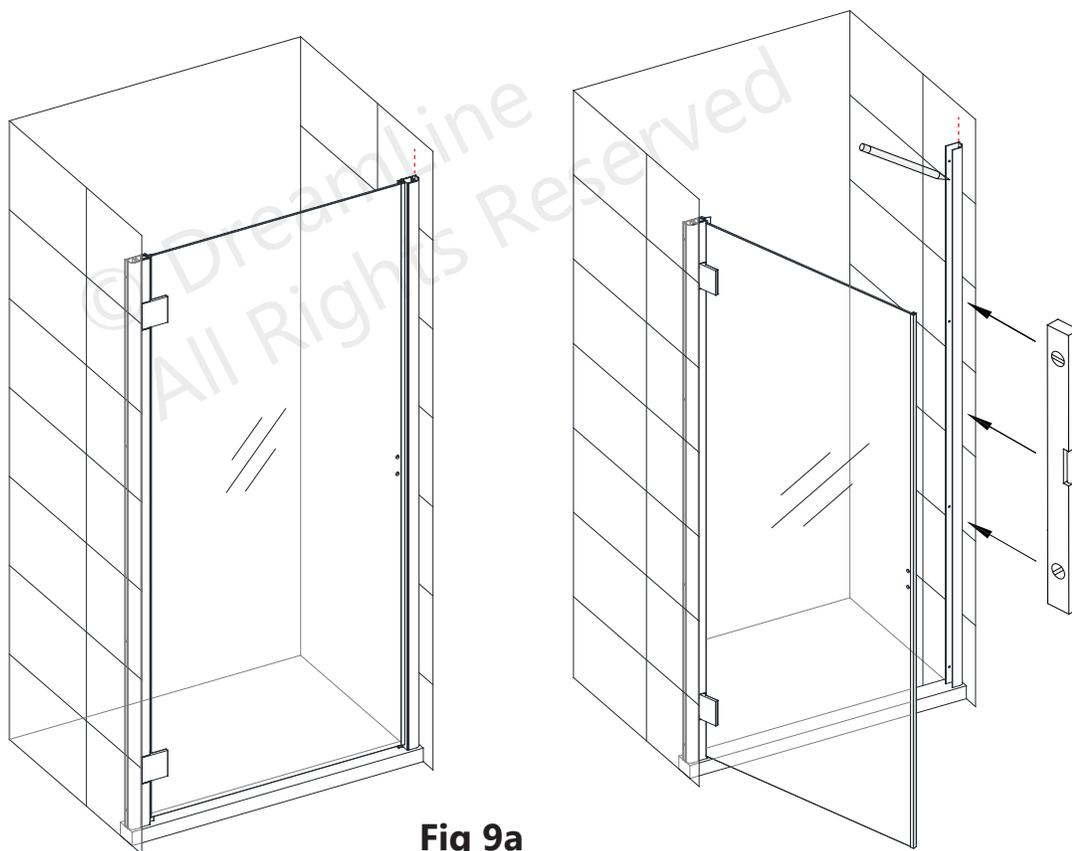
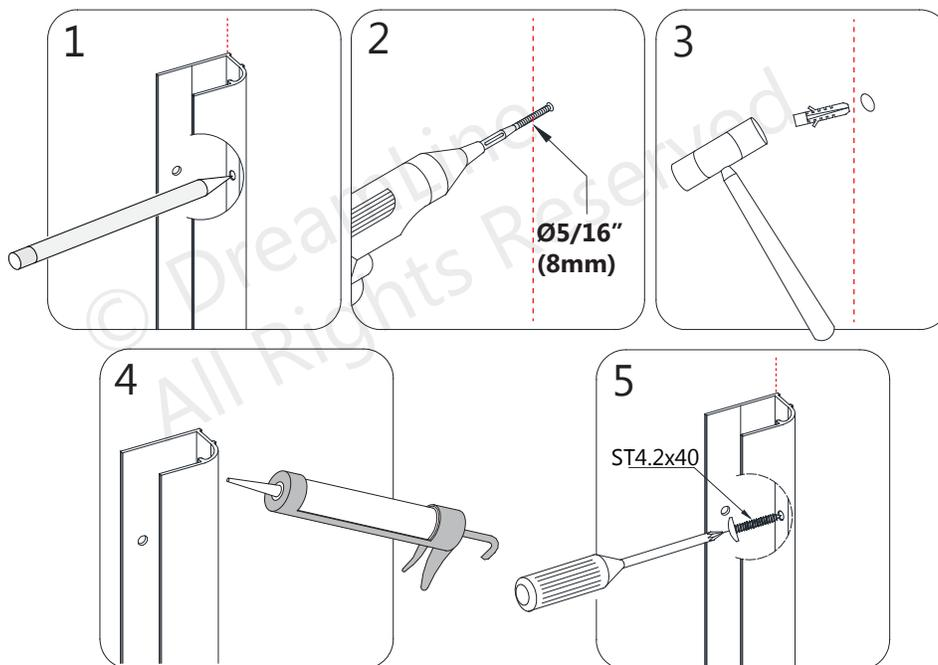

Fig 9a
Fig 9b
9. Open the door and remove the **Strike Profile (#09)** and leave the **Wall Profile (#10)** in position. Mark the holes for drilling through the holes in the **Wall Profile (#10)**. Drill **Ø5/16" (8mm)** holes and insert the **Wall Anchors (#16)** into the holes. Apply silicone to the back of the **Wall Profile (#10)** and around the screw holes. Attach the **Wall Profile (#10)** to the wall using the **ST4.2x 40 Truss Head Screws (#15)**. (**Fig 9a and Fig 9b**)